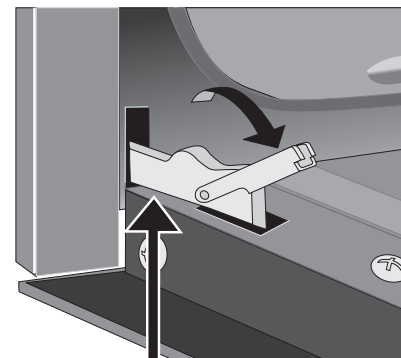

Figure 28: Unlocking door hinge
4. Pull the bottom of the door toward you while rotating the top of the door toward the appliance to completely disengage the hinge levers (Figure 28).
1. Firmly grasp both sides of oven door along the door sides. Do not use the oven door handle (Figure 28).
2. Hold the oven door at the same angle as the removal position. Carefully insert the hinge levers into the oven frame until you feel the hinge levers are seated into the hinge notches. The hinge arms must be fully seated into the hinge notches before the oven door can be fully opened. (Figure 28).